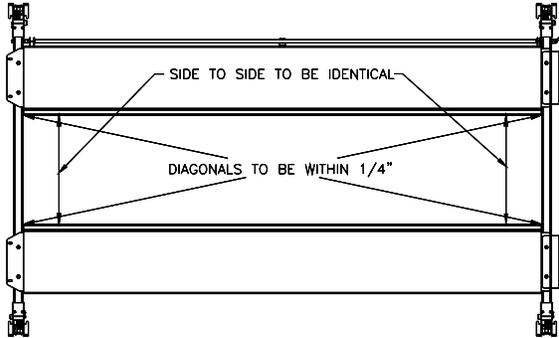

Fig 13 – Final Runway Positioning
- 20) Check the layout of the lift in the bay. If anchoring the lift, this is the last chance to make adjustments. Adjust the position of the runways so the distance from power side jack rail to idler side jack rail is the same at the front and the rear and the diagonal measurements from the front tip of one rail to rear tip of the opposite rail are within $1/4"$, **Fig 13**.